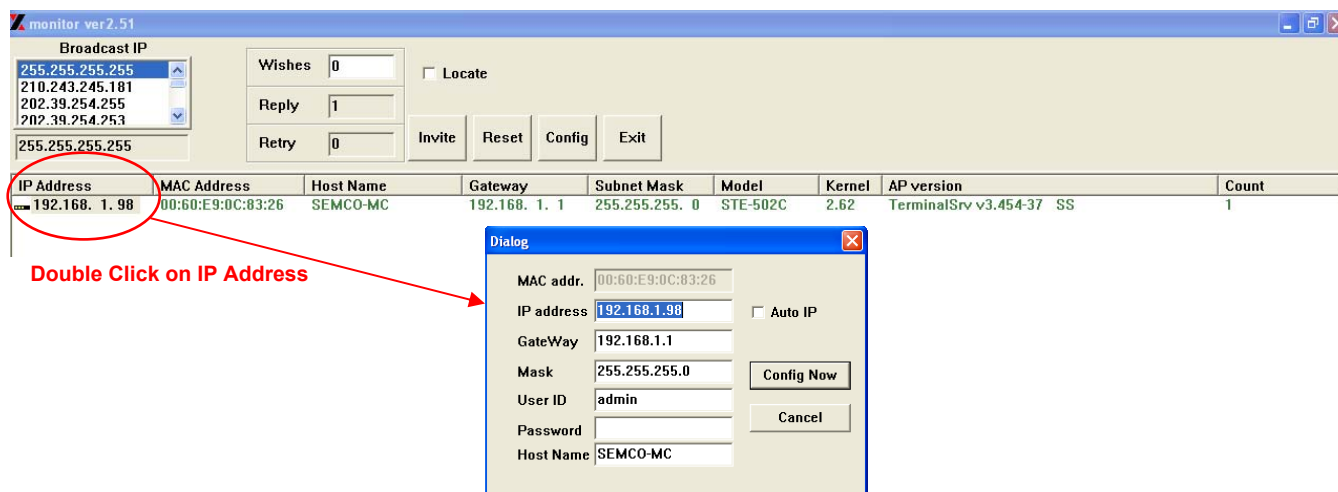

Figure 3-4
Step 3 – Launch the **Monitor** program by clicking on the **Shortcut to monitor** Icon. The screen shown in Figure 3-4 will pop up listing the IP addresses of all MC100 series devices that are connected via the network router to the remote PC. To configure each MC100 series multi-coupler network address, double
click on each individual device's **IP Address** as shown in Figure 3-4. The corresponding **Dialog** window will appear.